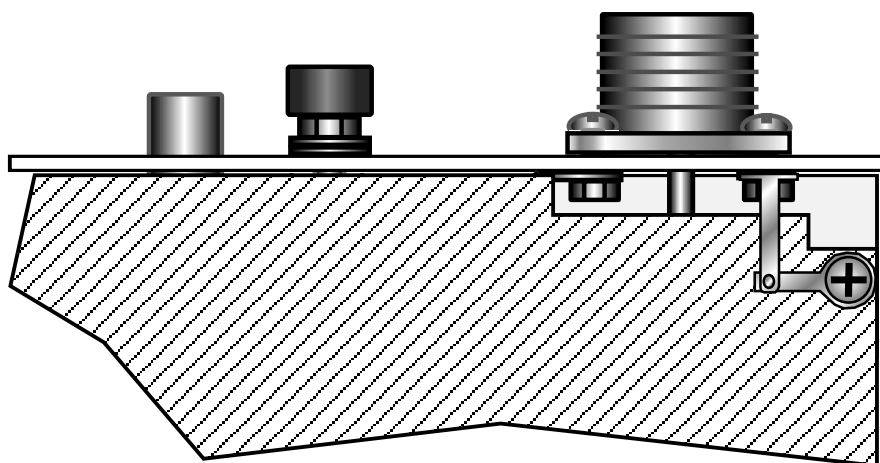

Figure 3
- The two solder lugs will be used to form a ground strap between the shield and rear panel as shown in Figure 3. Attach one lug to the shield screw nearest the SO239 connector. The lug replaces the lock washer, which can be saved as a spare.